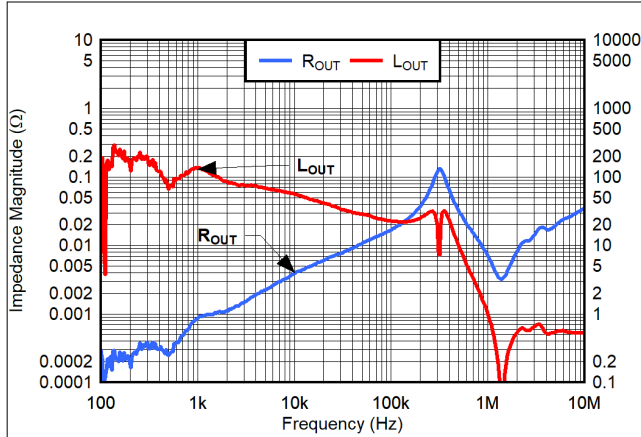
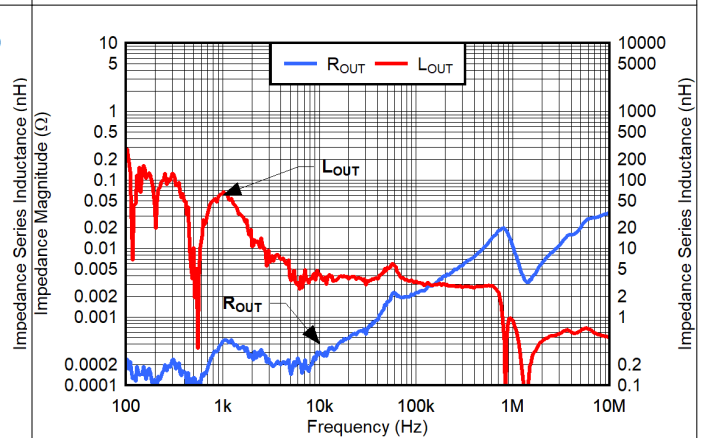

Figure 7-18. $V_{IN} = 0.75V$, $V_{BIAS} = 3V$, $V_{OUT} = 0.5V$, $CP_EN = 0$, $I_{OUT} = 20mA$
Figure 7-21. $V_{IN} = 0.75V$, $V_{BIAS} = 3V$, $V_{OUT} = 0.5V$, $CP_EN = 0$, $I_{OUT} = 1A$
- Figure 7-18 to Figure 7-21 are provided for the 0.75 -V_{IN}, 0.5V_{OUT}, 3V_{BIAS}, and I_{OUT} = 20mA, 200mA, 500mA, and 1A conditions.